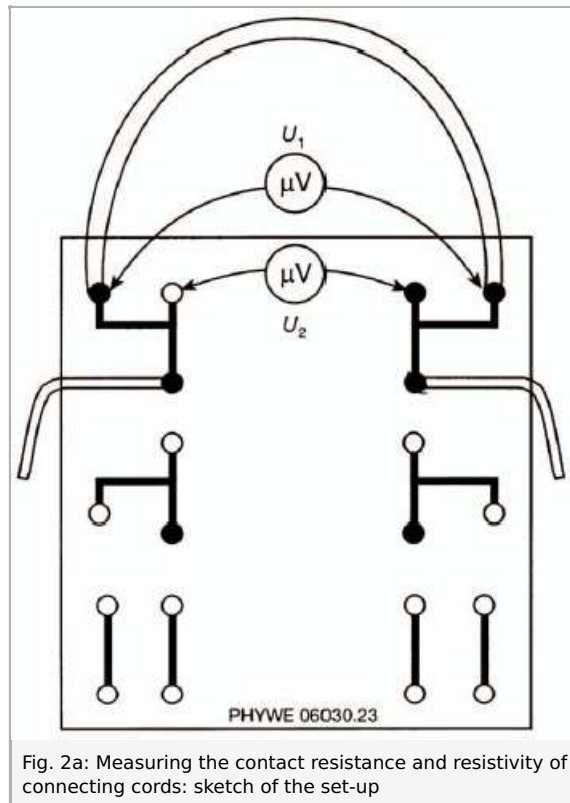

Fig. 2a: Measuring the contact resistance and resistivity of connecting cords: sketch of the set-up
2. Connect a connecting cord into the circuit in place of the metal rod, using two double sockets with cross hole (Fig. 2a). Connect the voltmeter to the sockets of the connecting cord connector (similar to the four-wire method; measuring  $U_1$  as shown in Fig. 2). The voltage drops not only across the pure line resistor  $R_1$  but also across the two line/plug contact resistors  $R_{1p}$  as well.